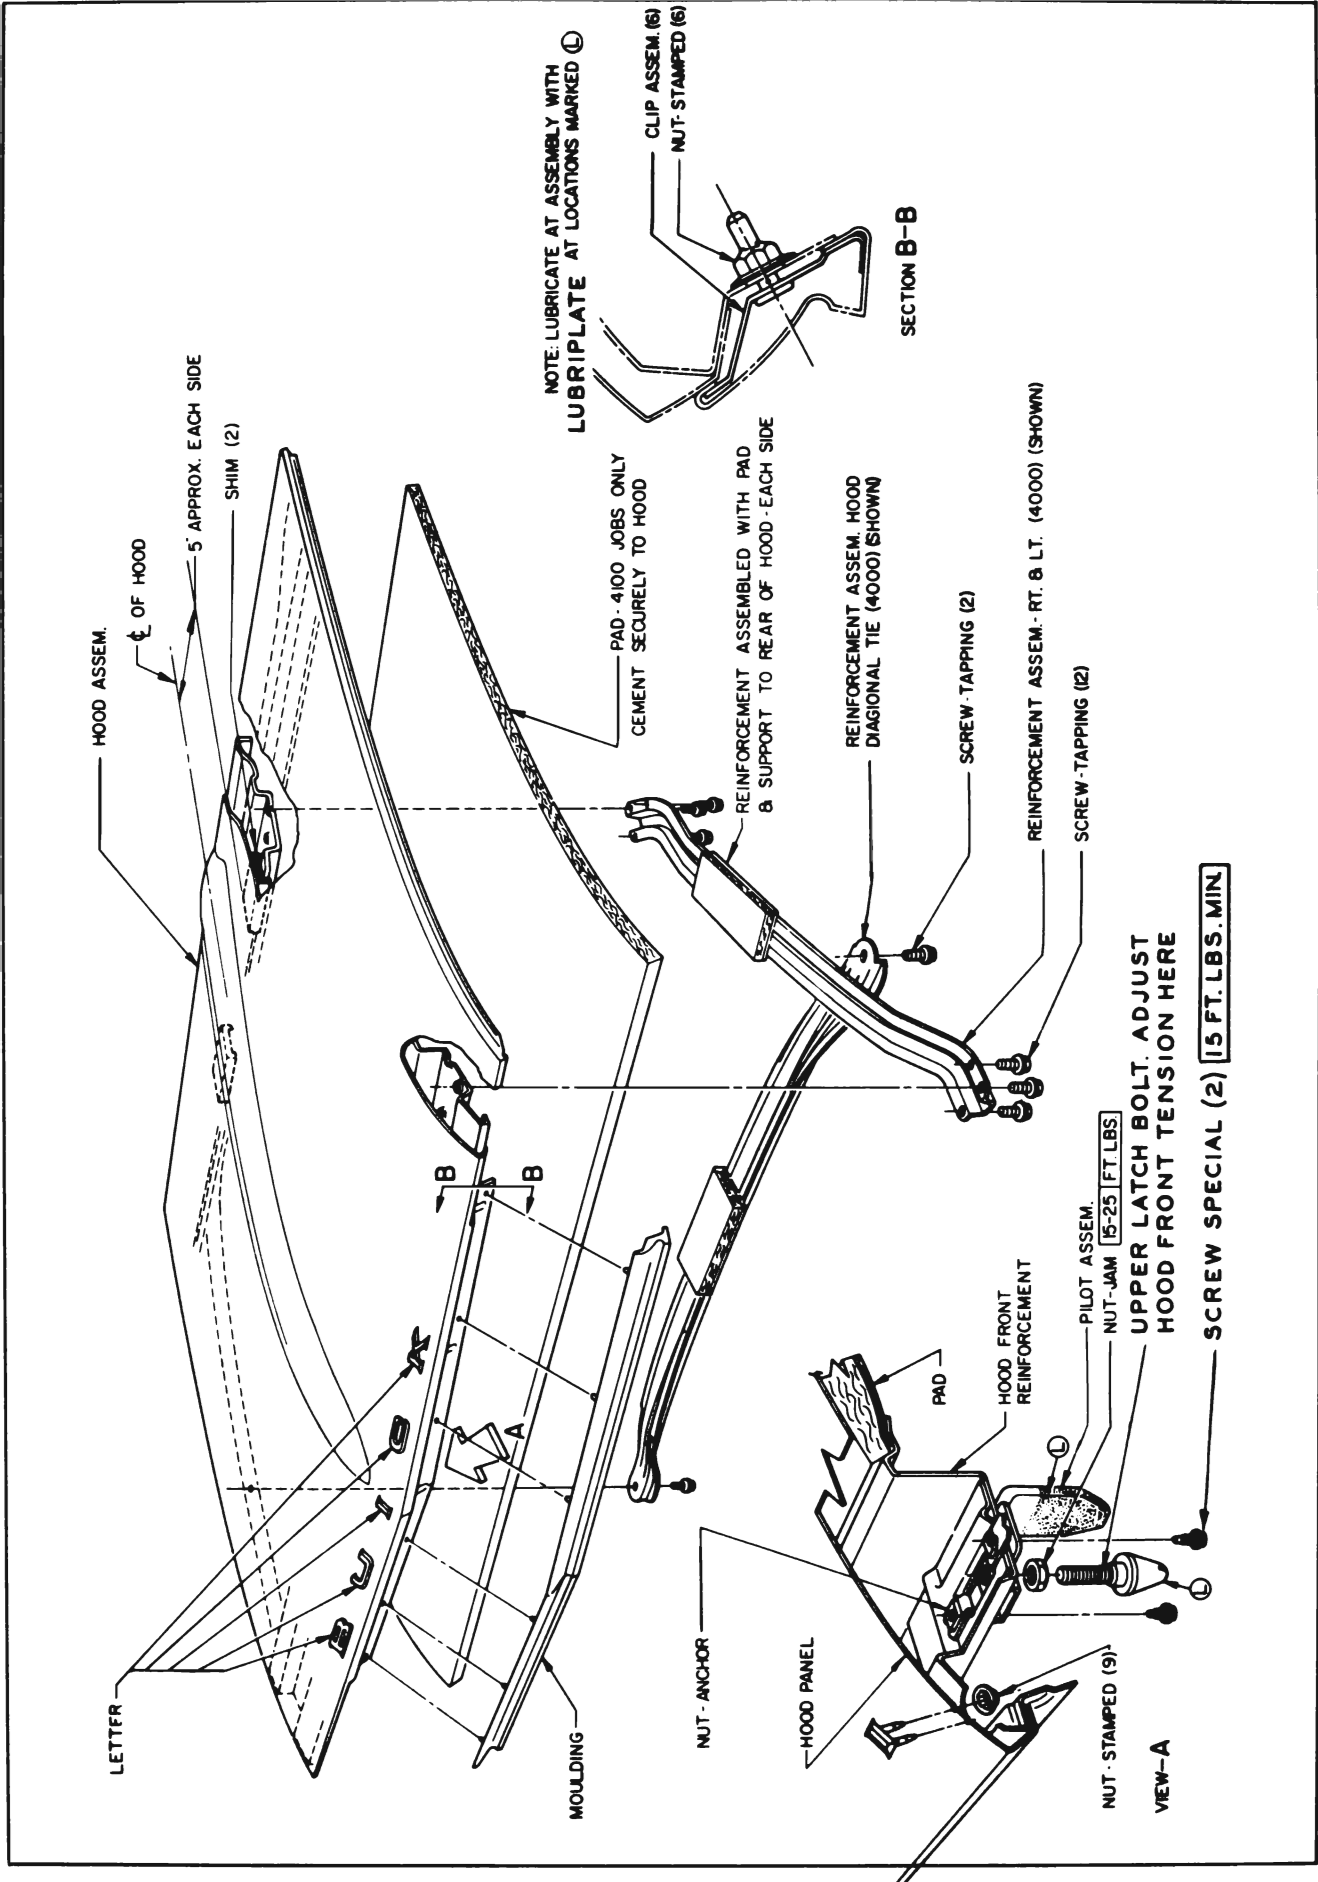

Figure 12-6—Hood Assembly
The front of the hood is held down by a dove-tail bolt (Figure 12-6) which engages a latch
4. Latch Tension. Latch tension is determined by the length of the latch bolt. See Figure 12-6. If the front of the closed hood is not held tightly against the bumpers, the latch bolt must be shortened. If the hood can't be closed or is hard to close, the latch bolt must be lengthened.